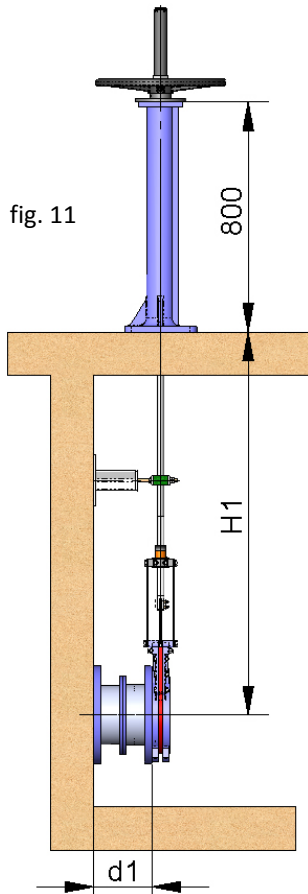

fig. 11
- The standard floor stand is 800 mm high (fig. 11). Other floor stand measurements available to order.